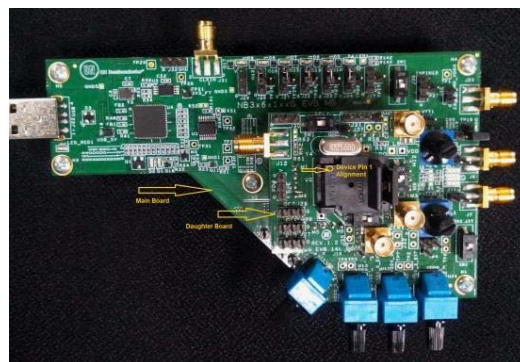

Figure 2. Top View of Main Board with 16QFN
- Place NB3H63143G in the DUT socket U2. For pin 1 alignment refer to Figure 2